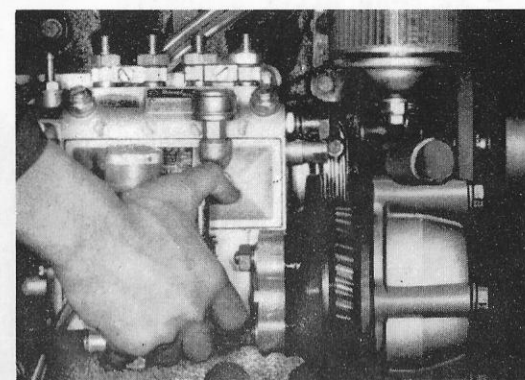

Fig. 4-53
- (3) The injection pump assembly should be mounted in position with the Z-Z mark on the pump drive gear coincided with the Z mark on the cam gear. (See Figs. 4-53 and 4-54)
- (4) Fasten the timing gear case with the front plate using the six clamping bolts. Spring washer and plain washer should be used for fastening these parts together with the bolts.
- (5) Connect vinyl pipes (for vacuum and for atmospheric pressure) to the injection pipe and fuel pipe.